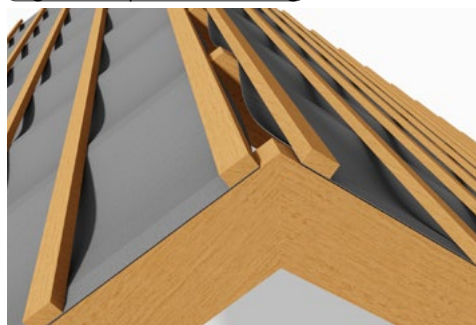

fig 6: Ridge ventilation
6. Where ridge ventilation is not being provided, the Danelaw LR150TT should extend over the ridge and overlap the underlay on the opposite side of the roof by the required amount. When being used in conjunction with ridge ventilation, the underlay should be cut or terminated and secured to ensure that the ventilation path remains clear along the length of the ridge (fig. 6).